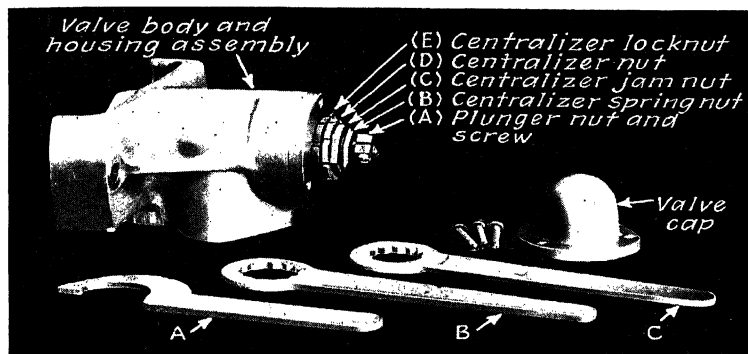
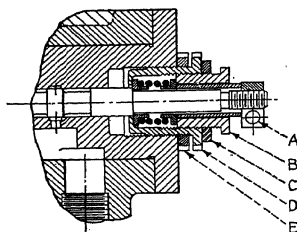

FIG. 88.—Balanced oil valve with cap removed and tools to be used.
Fig. 89.—Cross section of balanced oil valve.
*To centralize:* With wrench, A, Fig. 88, loosen the centralizer lock nut E, Fig. 89, and adjust the centralizer nut D until corresponding control just starts to move in one direction. Mark the position of the centralizer nut with respect to the valve body; then turn in the opposite direction until the control starts to move in the opposite direction. Mark. Now turn the centralizer nut midway between the two markings, and tighten the centralizer lock nut. *Care must be taken not to disturb the plunger nut, spring nut, and jam nut, A, B and C.*
Loosen the plunger nut lock screw *A* (Fig. 89) and turn the plunger nut counterclockwise until there is noticeable play between the plunger and the centralizing assembly; then screw the plunger nut in until end play just disappears. When these adjustments are completed, there must be *no play*; at the same time, the spring must be *under no initial compression*.